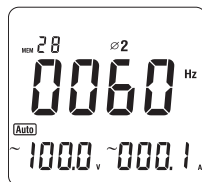

Figure 27
- Then press **SELECT** again to choose the second phase Ø 2, see figure 27